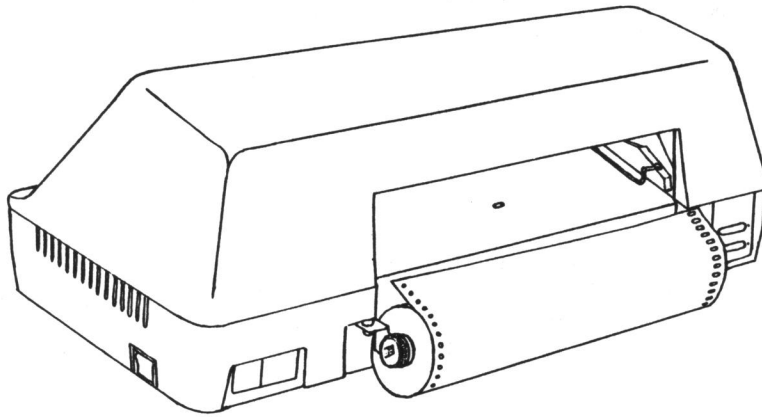

Figure 1-13
3. Set the roll with attached adapters in the media holders on the back of the plotter (see Figure 1-13). The holders should be turned outward and the media should be feeding over the top of the roll.